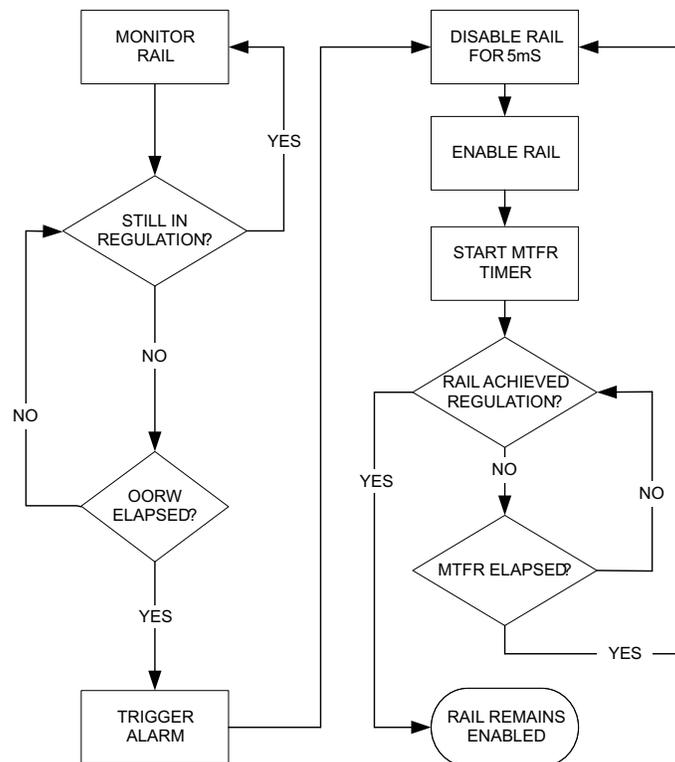

Figure 12. Flowchart for Retry Continuously
- **Retry Continuously** – continue to retry this rail by disabling the rail (with ENx pin) and then re-enabling the rail. Repeat until the power supply rail alarm clears (Figure 12).